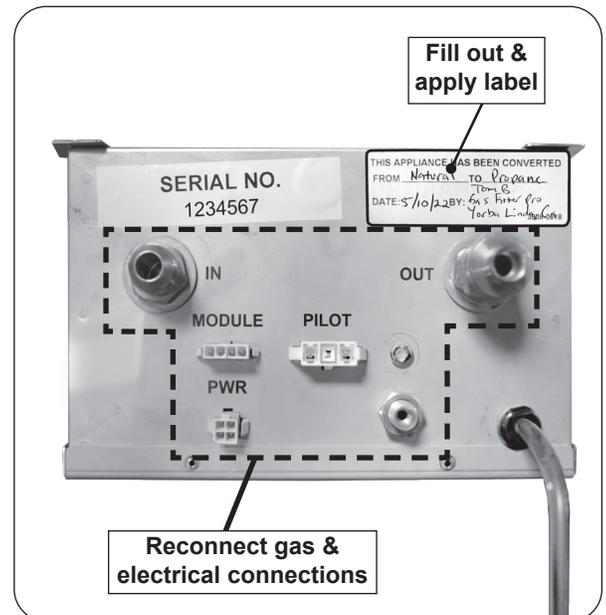

Fig. 5-3 Reconnect box and apply label
12. Temporarily close the box cover plate (don't use the screws yet), and reconnect all gas and electrical connections to the control box (see Fig. 5-3).
Fill out the supplied conversion label, then apply it to the control box over the existing gas type markings (see Fig. 5-3).